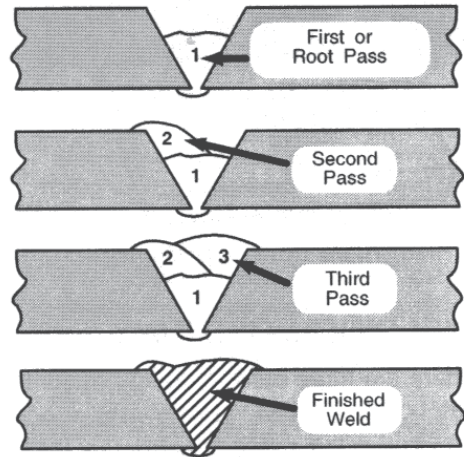

Figure 18. Butt Joints
**Butt Weld Joints.** When butt welding thicker materials, you will need to prepare the edges of the material to be joined by grinding a bevel on the edge of one or both pieces of the metal being joined. When this is done, a V is created between the two pieces of metal, that will have to be welded closed. In most cases more than one pass or bead will need to be laid into the joint to close the V. Laying more than one bead into the same weld joint is known as a multiple-pass weld. The illustrations in Figure 18 show the sequence for laying multiple pass beads into a single V butt joint.